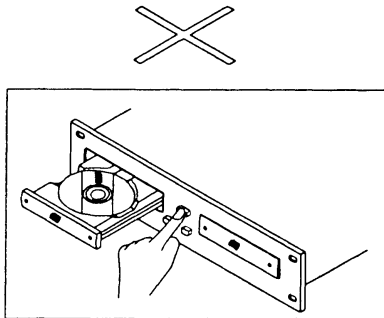

Fig. 25
- When you have finished using the CD player, and before switching off the power, be sure that the disc holder has been closed with the OPEN/CLOSE button (see figures 25 & 26).